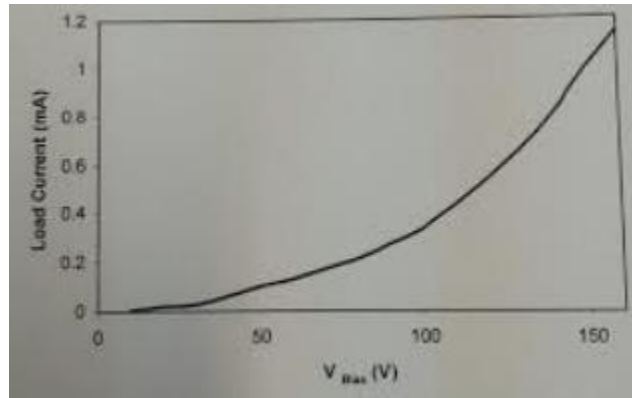

Figure 4: Bias Voltage Vs Load Current graph
4. Plot the graph V_{Bias} Vs I_R . The sample graph for a load resistor of 100K and power of -15dBm is shown in Figure 4.